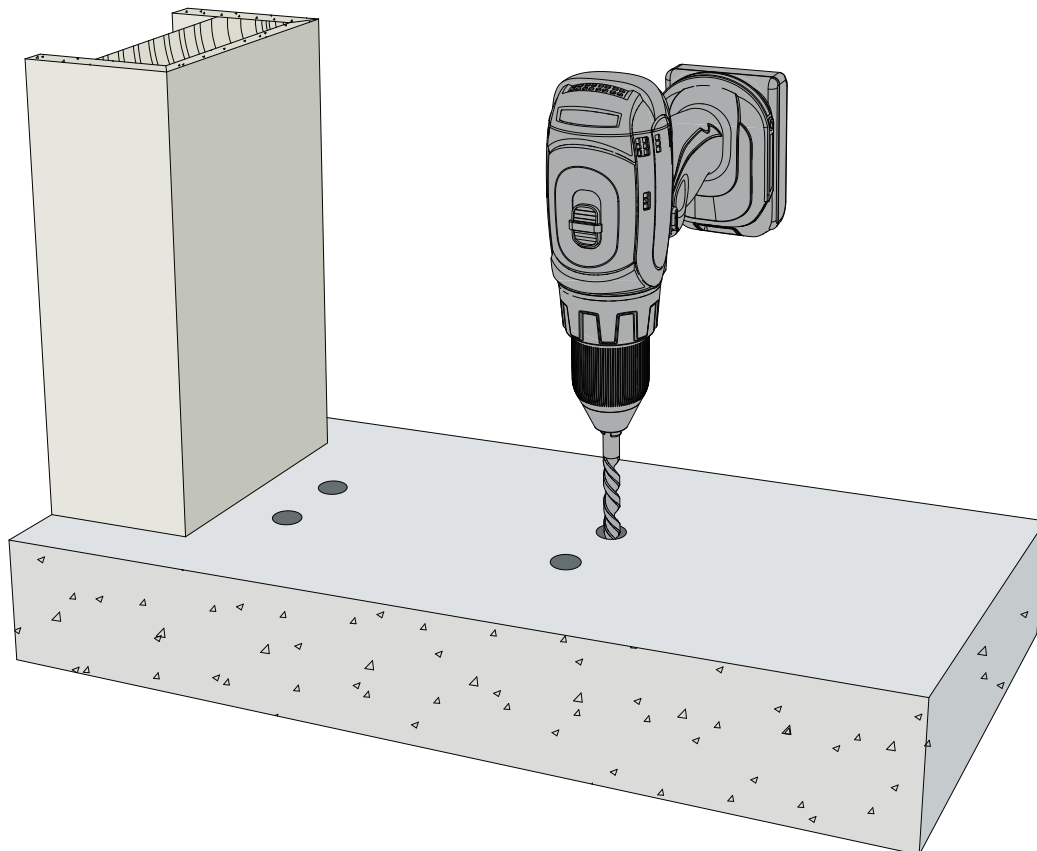

FIG. 2
2. Drill four 5/16"Ø (8mmØ) x 1" (26mm) deep holes. **(Fig. 2)**